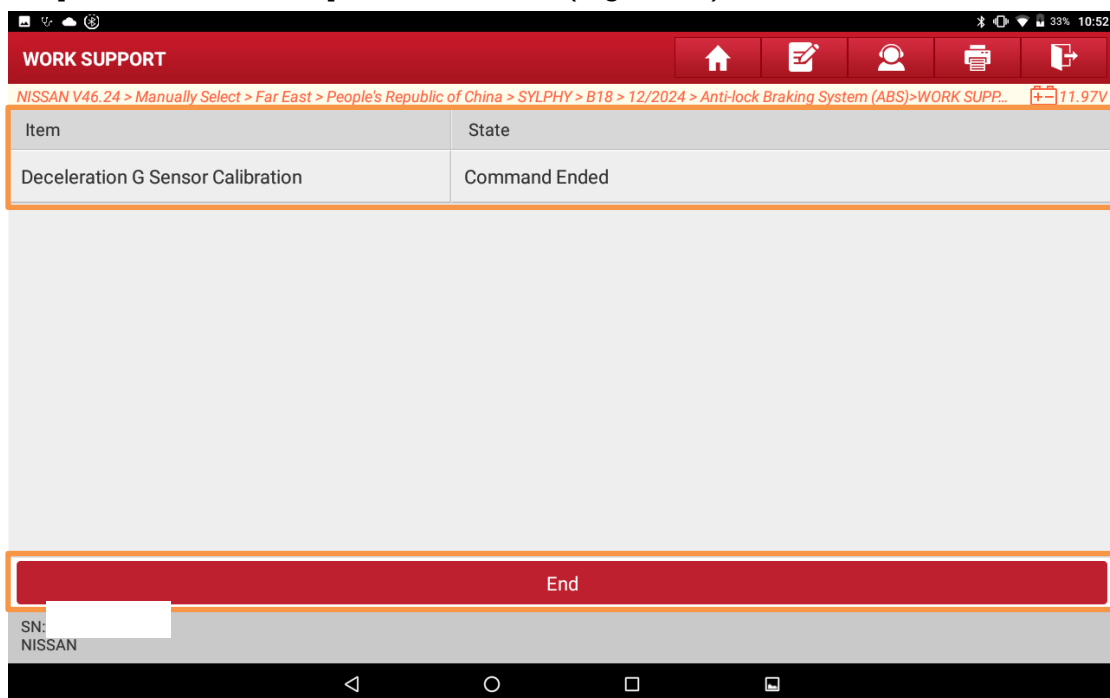
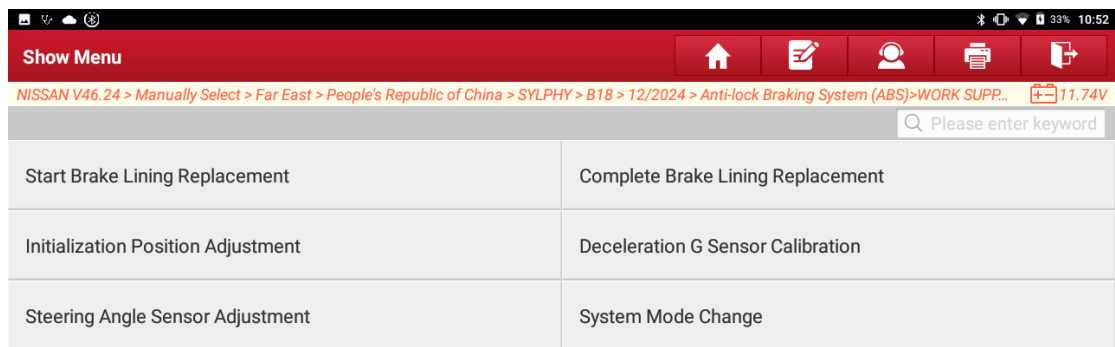

Figure 13
Figure 14
- After a short wait, the status bar will display "Command Ended," indicating that the calibration is completed. Click "End" (Figure 13) to return to the [WORK SUPPORT] menu interface (Figure 14).